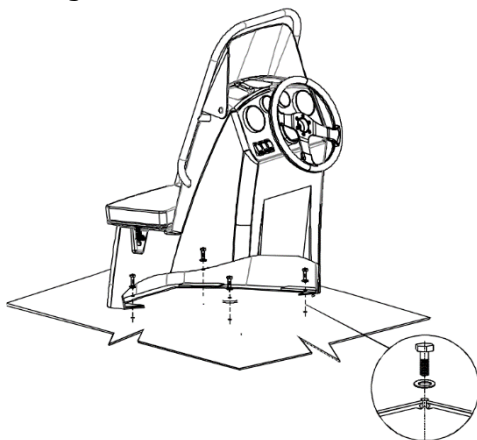

Fig. 6. Installation of steering console CL-14.
- Fix steering console to the deck by means of bolts M8*25 and toothed lock washer (see fig. 6).